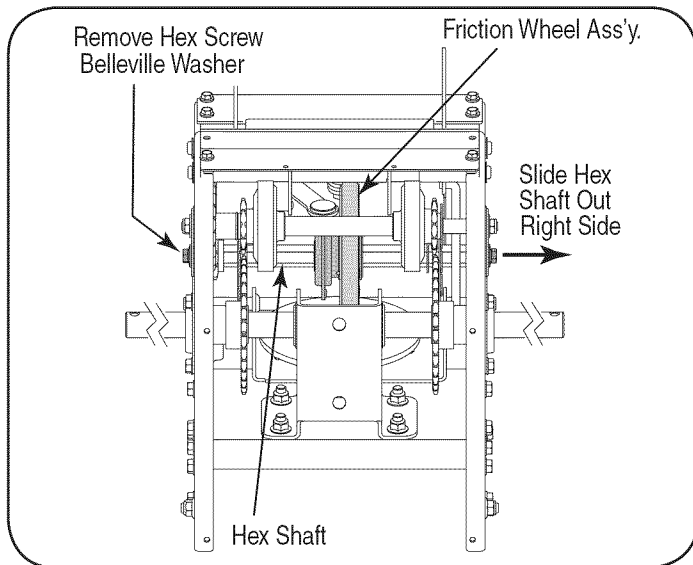

Figure 38
- Using a 3/4" wrench, hold the hex shaft and remove the hex screw and belleville washer and bearing from left side of the frame. Refer to Figure 38.